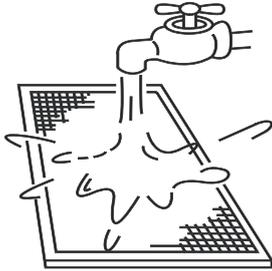

Figure 14.4
- b. The air intake side should face down when using clean water. (Refer to Fig.14.4)